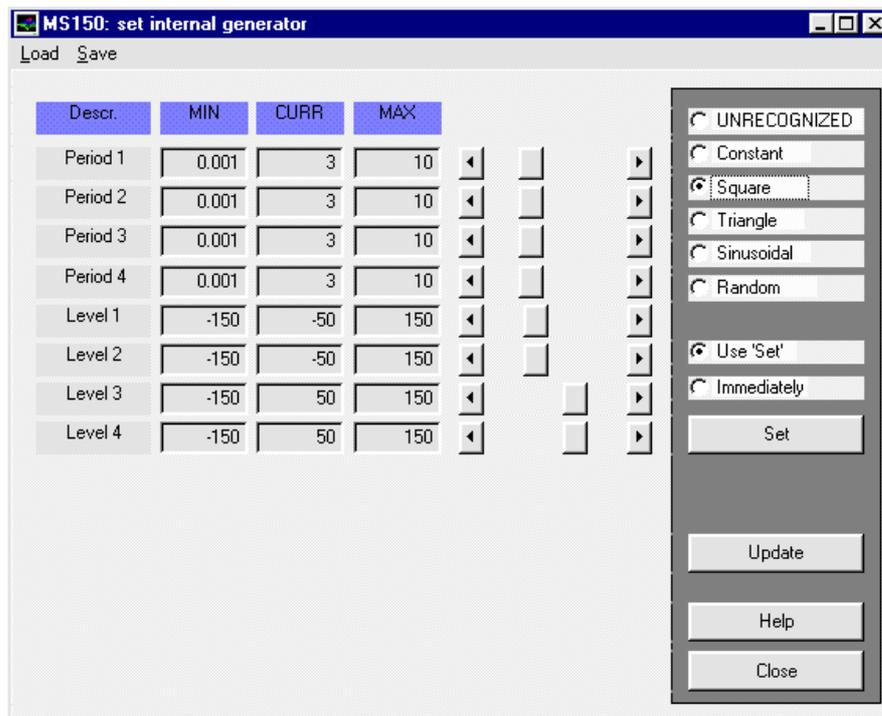

Figure 4-4: *Set parameters of internal excitation source* window
9) *Set parameters of internal excitation source* - opens the window to set the shape and parameters of the signals from the internal excitation generator (Figure 4-4).